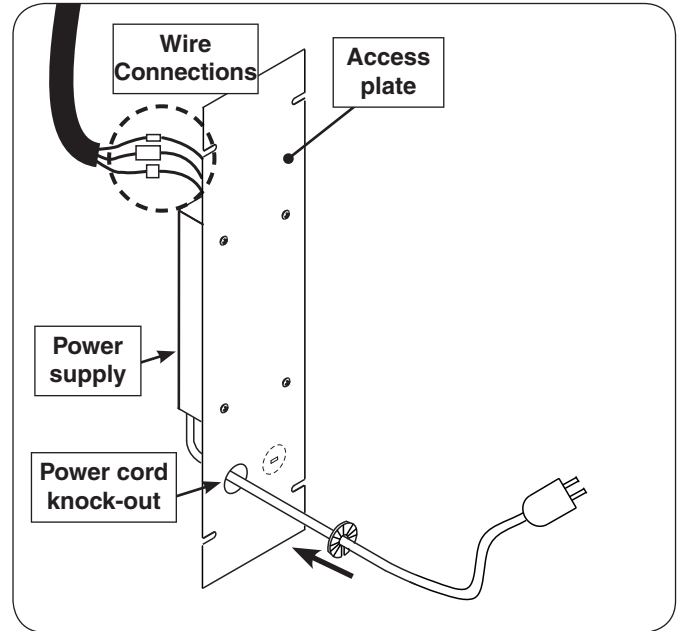

Fig. 13-1 Access plate view & orientation
A power supply is pre-mounted to the access plate. For ease of installation, disconnect the power supply from the wire harness extension. Locate the three wires coming from the inside of the post to the power supply and carefully disconnect (see Fig. 13-1 and 13-2).
3. Remove the plastic power cord bushing fastened to the inside of the post and install it onto the power cord. Slide the bushing up against the access plate knock-out hole and snap into place. See Fig. 13-1.